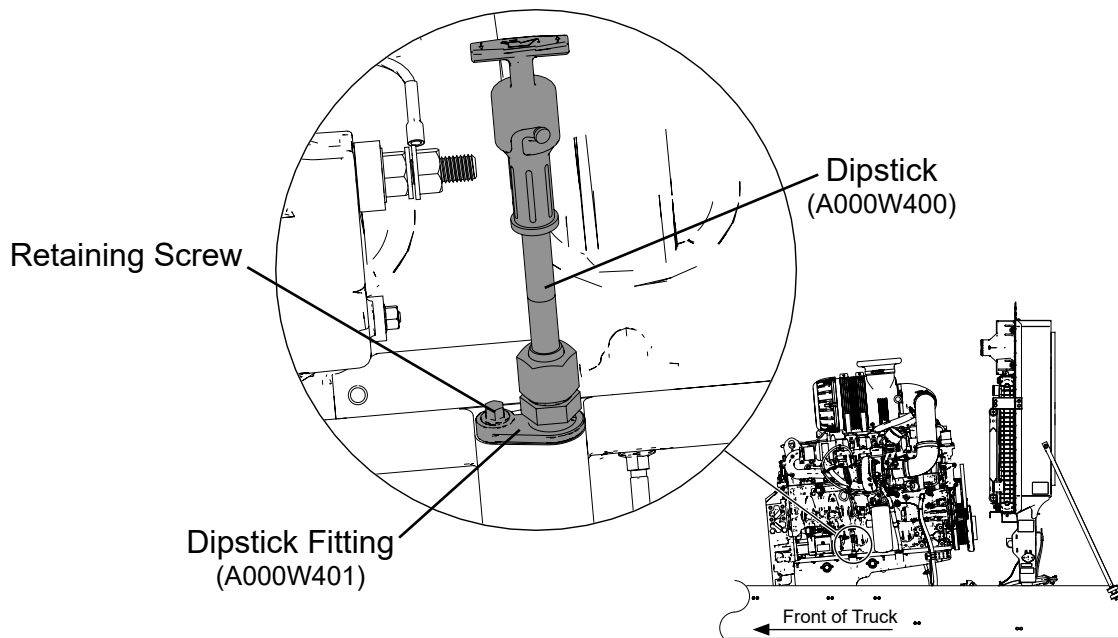

Figure 4
21. Install dipstick fitting (A000W401) in engine block, see Figure 4.
22. Install retaining screw removed in Step 13 to secure dipstick fitting to oil pan, see Figure 4. Final tighten retaining screw to 71 in. lbs.
24. Thread dipstick (A000W400) onto engine block dipstick fitting (A000W401), see Figure 4. Final tighten dipstick to 42 ft. lbs.